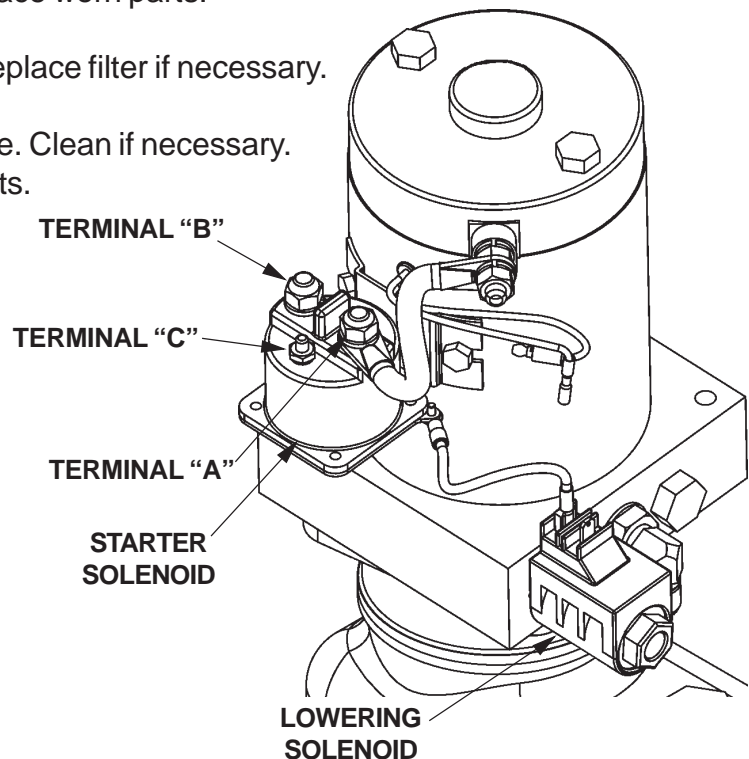

FIG. 59-1
(FIG. 59-1.) Recharge the battery if less than 12.6 volts.
3. Touch a jumper wire to terminals "B" & "C" (FIG. 59-1). If motor runs check Switch, switch connections, and White wire. Check and correct wiring connections or replace the Switch.
4. Touch heavy jumper cables to terminals "A" & "B" (FIG. 59-1).